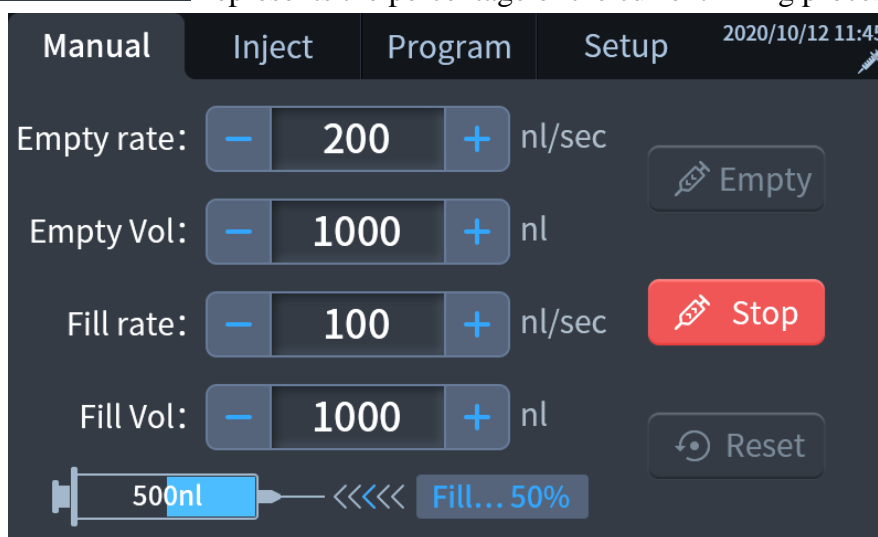

Figure 5-6
- 7) During the filling process, the filling progress will be displayed in real time in the [Manual] interface, as shown in Figure 5-6.